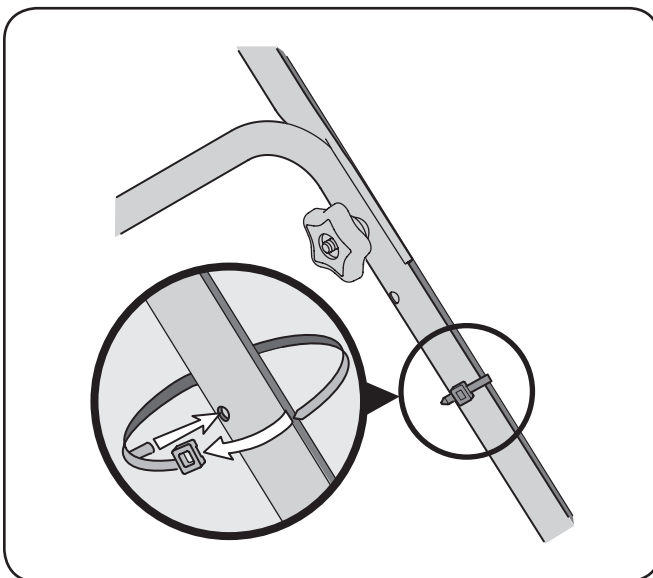

Figure 3-4
3. Insert post on cable ties into holes provided on the lower handle. Pull cable tie tight and trim excess. See Fig. 3-4.